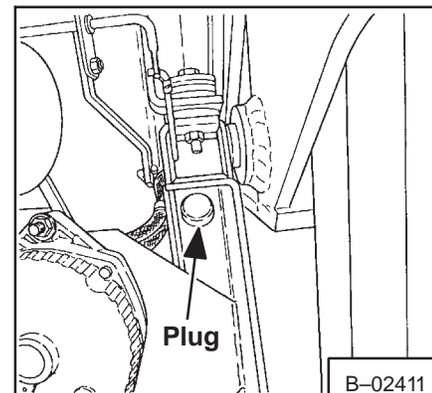

Fig. 2-8 Reservoir Vent Plug
1. Install pipe plugs in the reservoir vents. (See Fig. 2-8.)